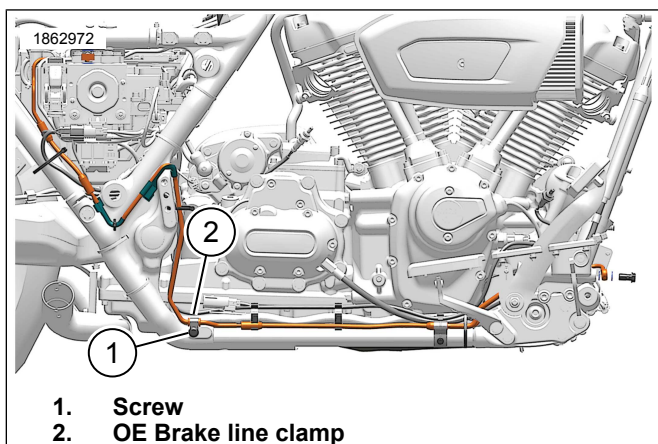
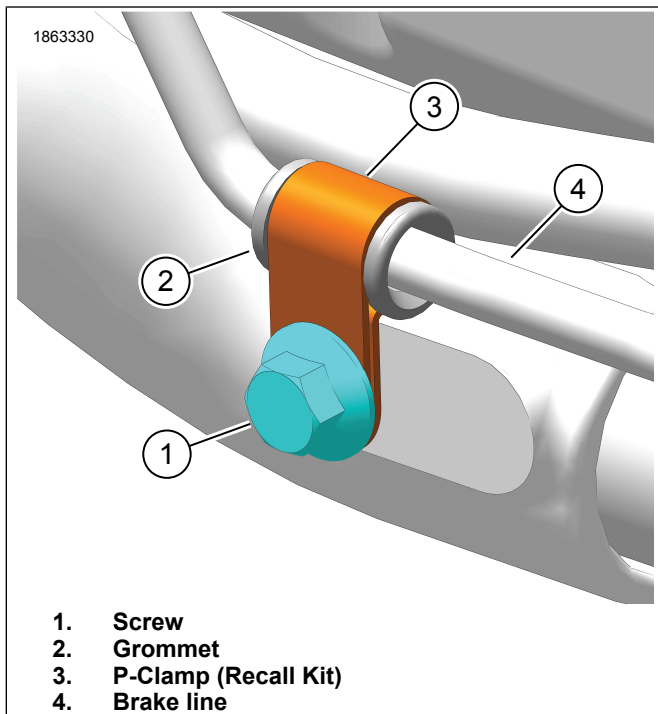

Figure 1. Rear Master Cylinder Brake Line (exhaust removed for clarity)
Figure 2. P-Clamp Orientation
3. See Figure 1. Remove and retain screw (1).
4. Remove and discard Original Equipment (OE) brake line clamp (2).
5. See Figure 2. Install **new** P-Clamp (3) from recall kit (Part No. 91500116).
- a. Make sure P-Clamp (3) is properly orientated.
6. Install screw (1). Tighten.